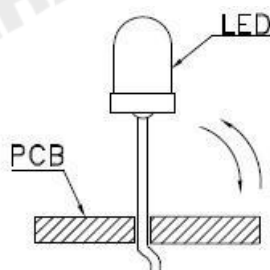

Fig. 8
5. Do not bend the leads more than twice (Fig. 8)